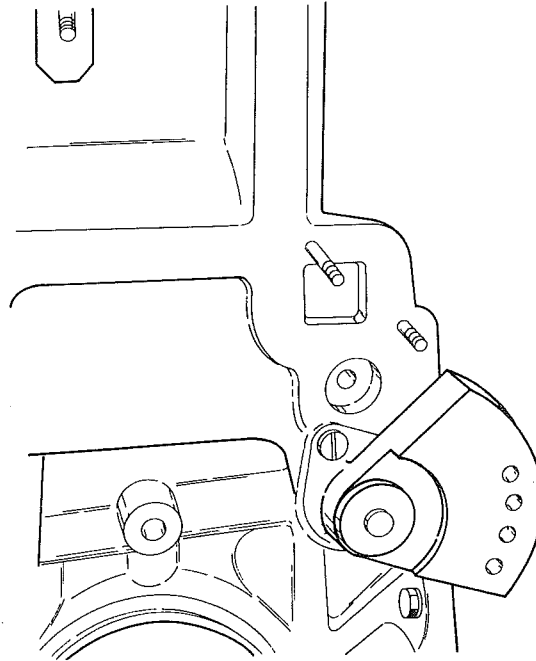

FIG. 21—BALANCER WEIGHT
b. Remove the screws that attach the thrust plate to the block. Pull out the assembled balancer shaft. Remove the screws, lock washers, and washers that attach the balancer shaft weight to the balancer shaft as shown in Fig. 21. Use a puller or press to remove the balancer shaft weight from the shaft. If the balancer shaft weight is to be removed without removal of the shaft, do not remove the thrust plate. Remove the screws, lock washers, and washers that attach the balancer shaft weight to the balancer shaft and remove the weight with a bearing puller.